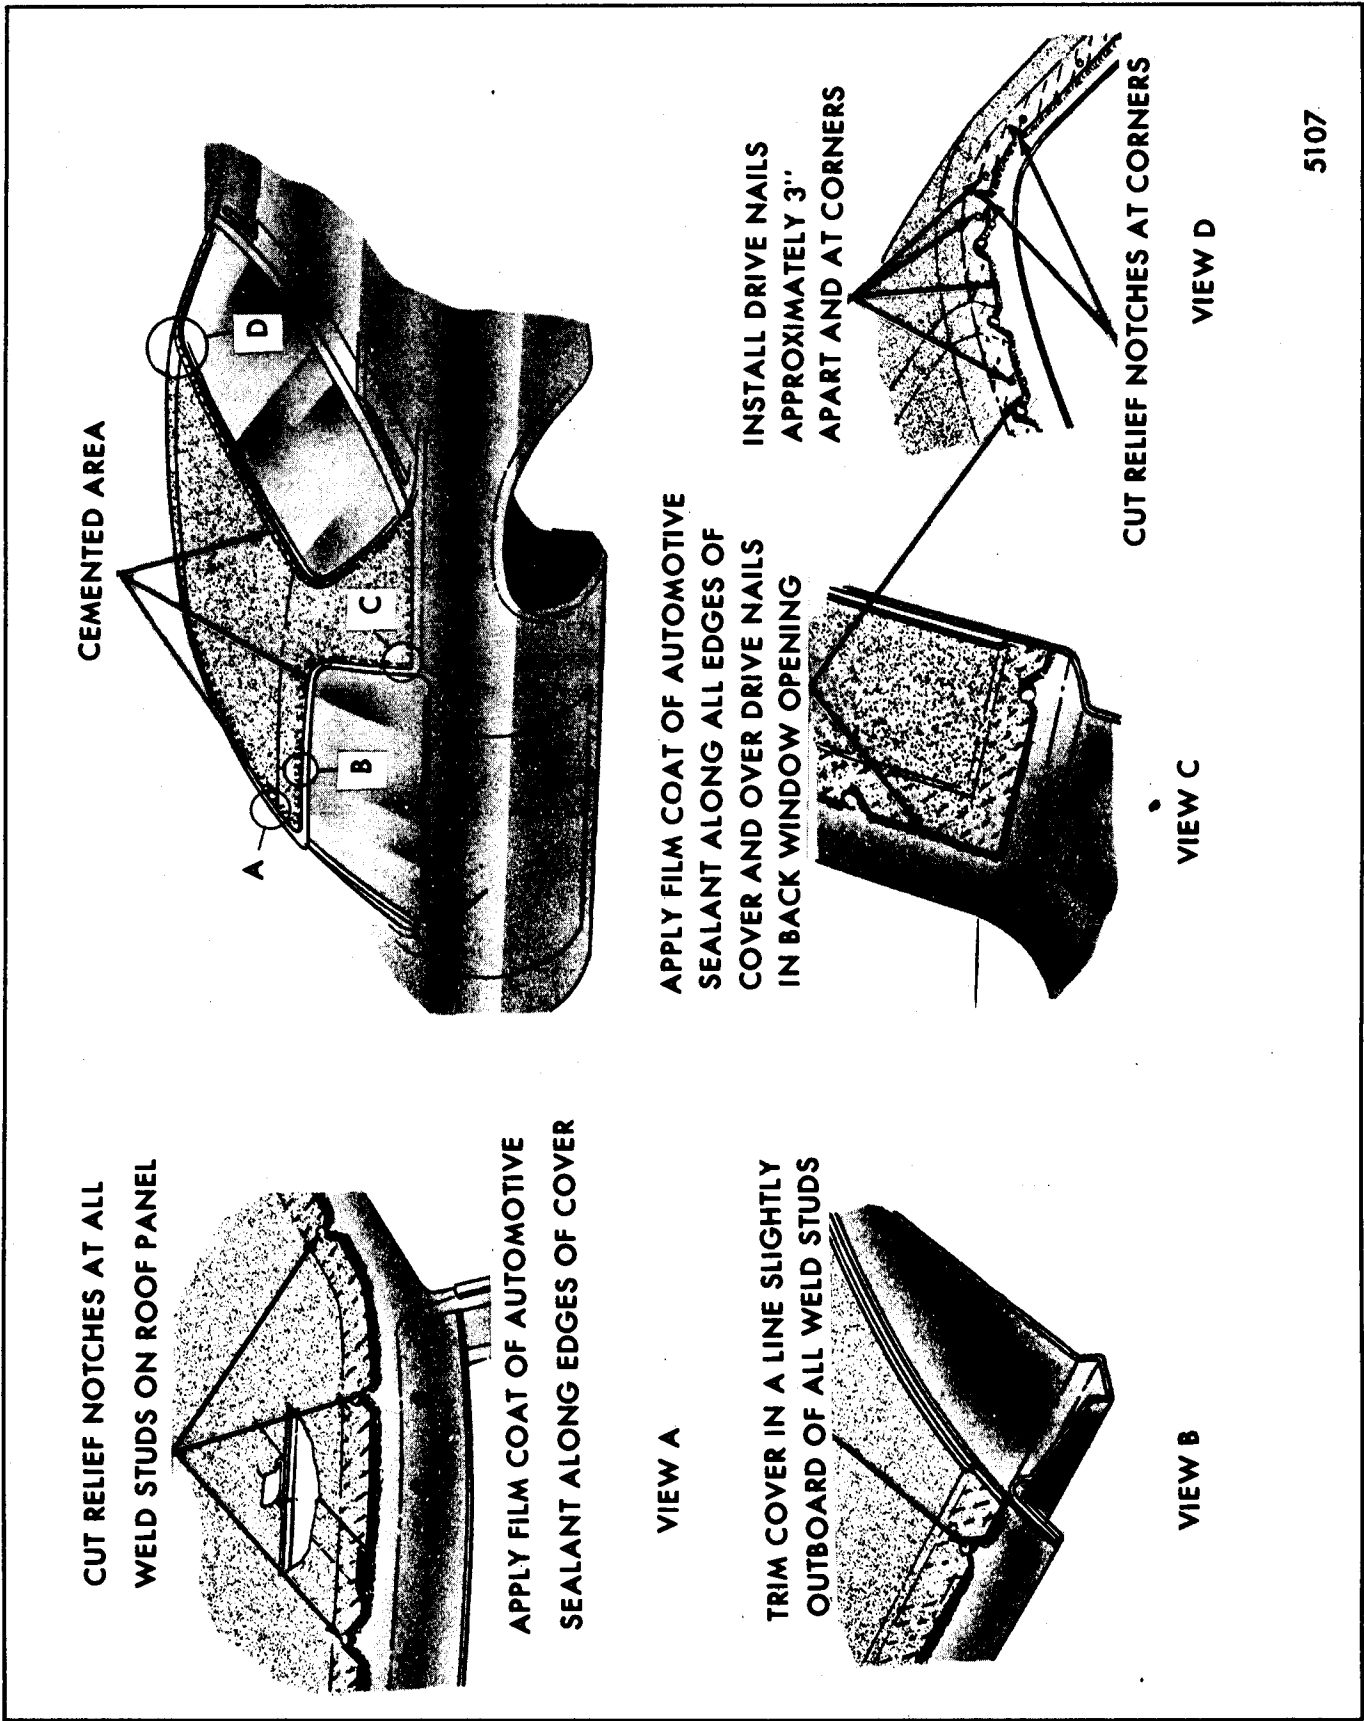
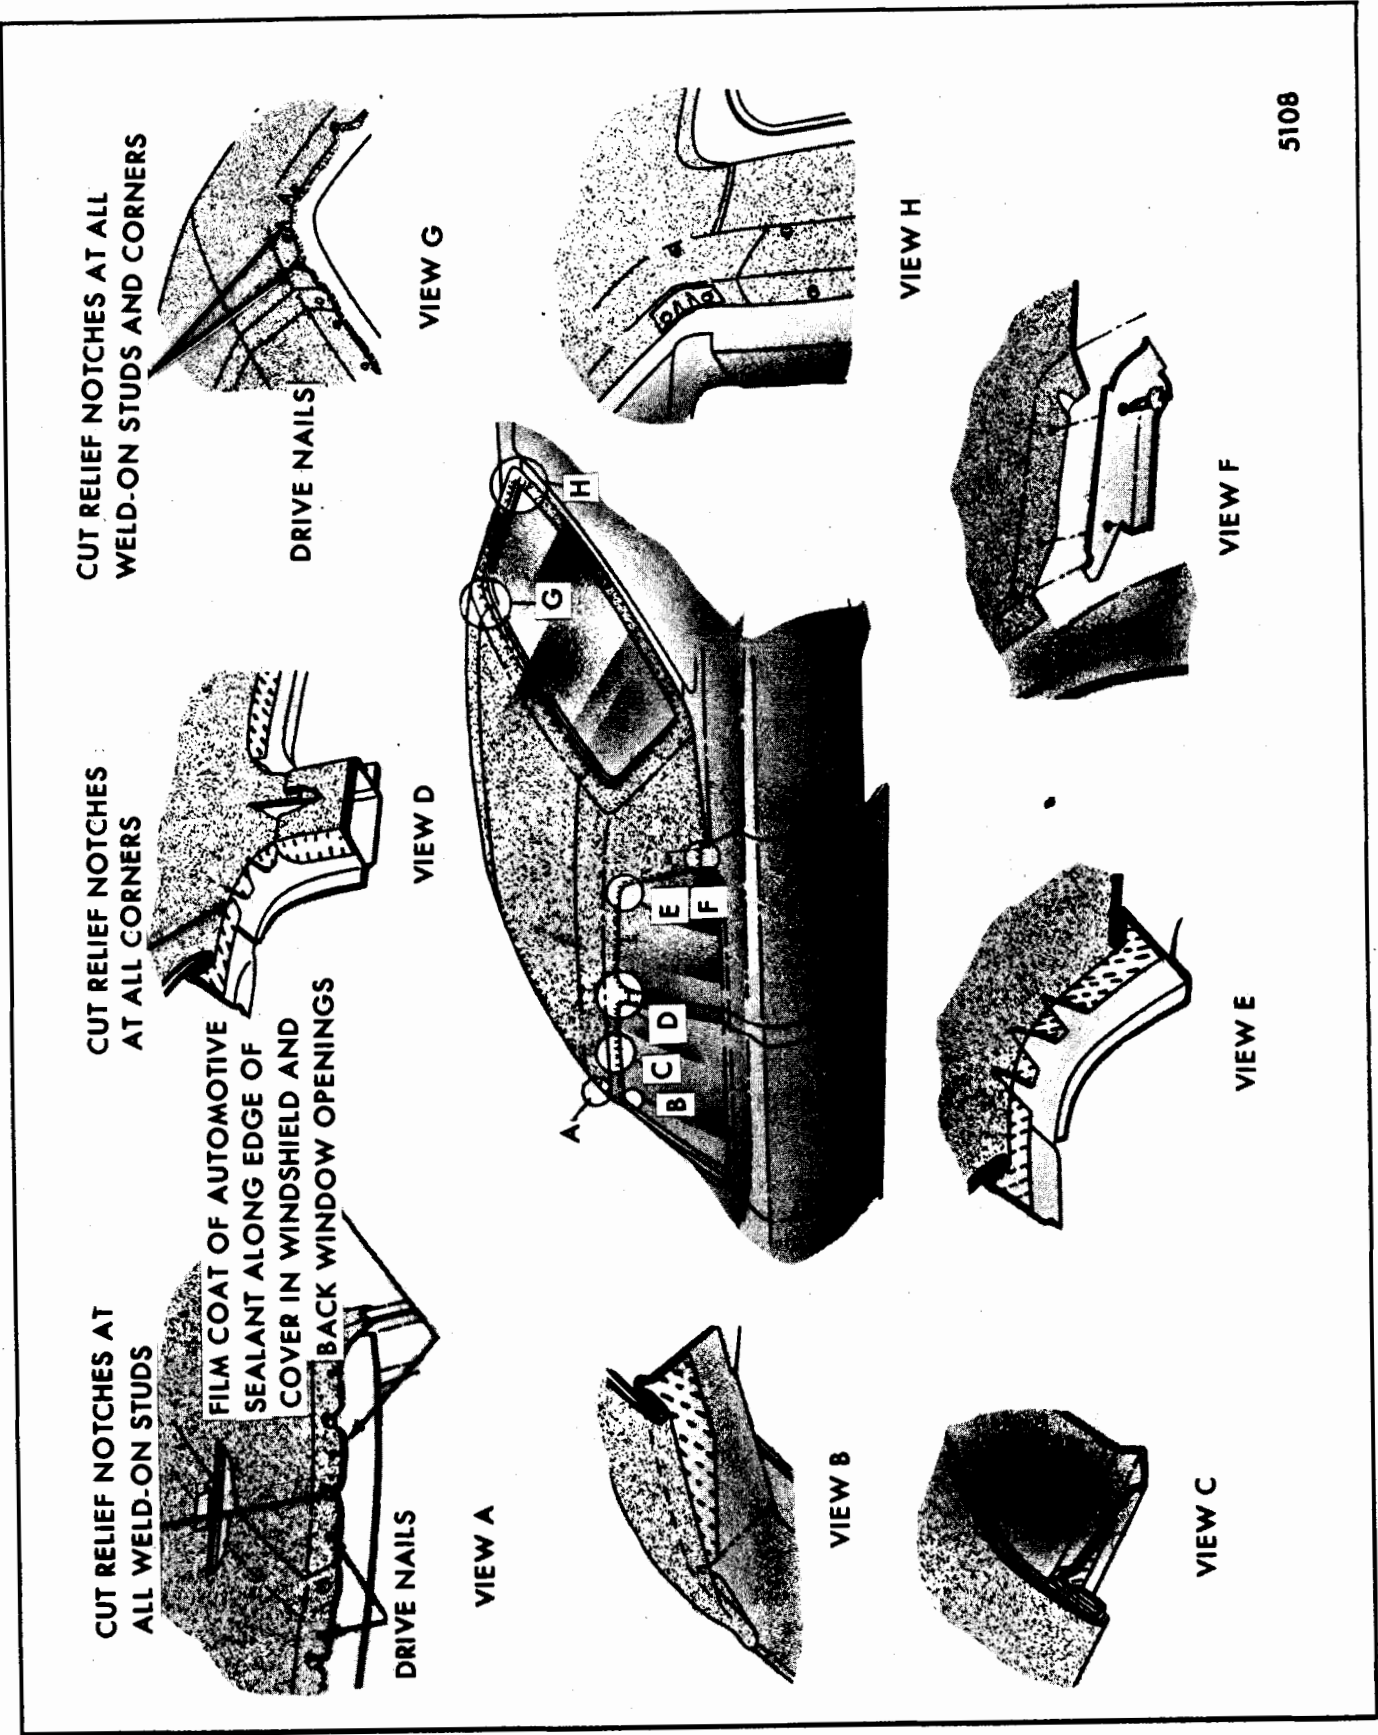

Fig. 11-3-Typical Fabric Roof Cover Installation with Pad and Roof Panel Moldings
Fig. 11-4-Fabric Roof Cover Installation with Pad - 68169 Styles
6. Apply nitrile type vinyl trim adhesive to that part of lining side of cover that will contact the metal portion of the roof panel. On styles with pads, cement should be applied so it will overlap the pad approximately 1" (Figure 11-3).
9. Cut relief notches in cover at all weld-on studs and angle cuts as required in corners of window openings (Figure 11-4). Apply cement to window openings and cement cover in opening. In the event a reveal molding clip could not be removed, trim cover around clip and cement cover down behind clip (See Fig. 11-3).
11. Apply cement to one side of exposed roof panel where cover is attached (on padded styles, make certain cement overlaps pad approximately 1") and cement cover to cemented areas. Relief notches must be cut in cover at weld-on studs on roof panel (View "A", Fig. 11-3).
13. Install drive nails, approximately 3" apart and two in each upper corners, across top and down sides of back window opening on Cadillac 68169 and Oldsmobile and Cadillac "E" styles. In addition, install drive nails across top of windshield opening on 68169 styles (refer to View "D" Figure 11-3 for Oldsmobile and Cadillac "E" styles and View "A" and "G", Figure 11-4 for 68169 styles).
corners, raise cemented edge of cover and using scissors or sharp knife cut radius so roof panel moldings cover cut edge. Recement fabric cover to roof panel. Remove masking tape from roof panel (View "A", Fig. 11-3).
21. Apply a "film" coat of silicone sealant such as Dow Corning Automotive Sealant, General Electric RVP Sealant, or equivalent over drive nails and to edges of cover in windshield and back window openings, at belt area and at edges under roof panel moldings. Make certain edge of material around all reveal molding clips that were not removed, is also sealed (Fig. 11-3).